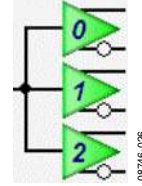

Figure 7. Driver Symbol
12. Power down unused drivers by clicking the numbered triangular symbol (see Figure 7) on the right side of the main window, and then clicking **Safe Power Down**.